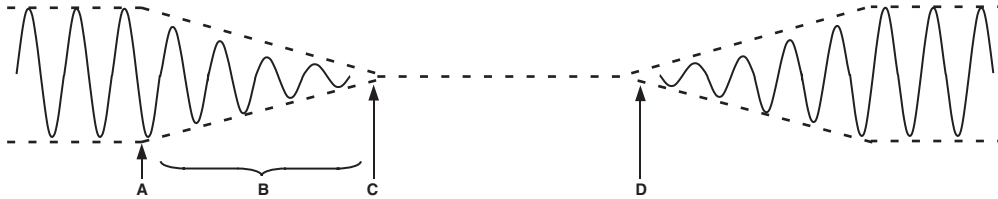

Figure 17. Recommended Sequences for Complete Parameter of Program RAM Upload Using Shutdown Mechanism
When writing large amounts of data to the program or parameter RAM, the processor core should be halted to prevent unpleasant noises from appearing at the audio output. Figure 17 shows a graphical representation of this mechanism’s volume envelope. Points A–D are referenced in the following description. Bit 10 in serial Control Register 0 (processor shutdown bit) will shut down the processor core. When the processor shutdown bit is asserted (A), an automatic volume ramp-down sequence (B) lasting from 10 ms – 20 ms will occur, followed by a shutdown